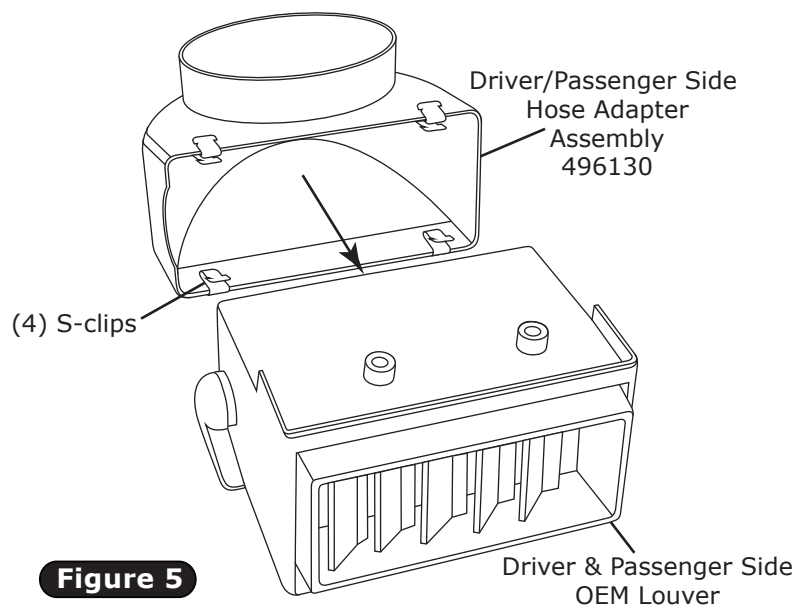

Figure 5
1. Install (4) S-clips onto driver and passenger side louver hose adapters (See Figure 5, below).
2. Install driver and passenger side hose adapters onto OEM driver and passenger side louvers as shown in Figure 5, below.